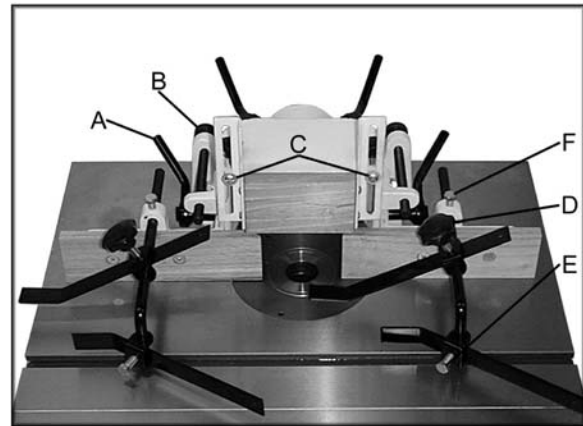

Figure 7
Refer to Figure 7.
1. Adjust fences by loosening ratcheting handle (A, Figure 7), turning knob (B) to adjust fence in or out, and tightening ratcheting handle.
2. Adjust spindle guard height by loosening two screws (C), sliding guard up or down to desired height, and then tightening screws.
3. Hold down guides can be adjusted by loosening knob (D).
4. Hold in guides can be adjusted by loosening hex cap screw (E).
5. Guide supports can be adjusted by loosening hex cap screw (F).